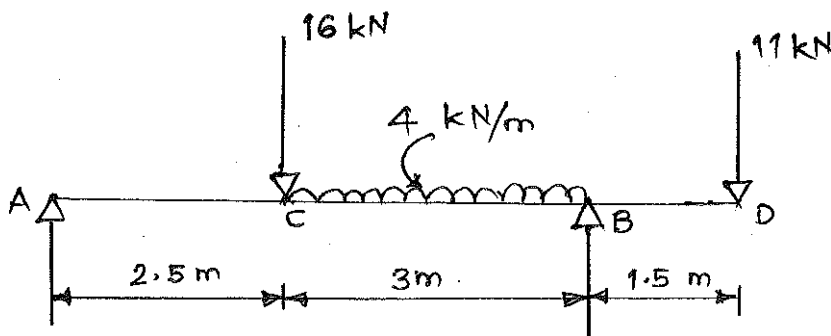

Figure No. 2
- a) Draw SF and BM diagrams for the beam shown in figure No. 2. Also locate the point of contraflexure.